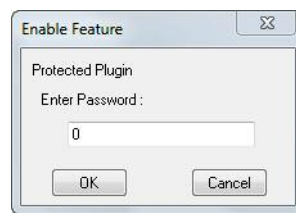

Figure 5 Enable Feature password dialog
3. In the Enable Feature dialog (Figure 5), enter your vDot4 plugin password and click OK.